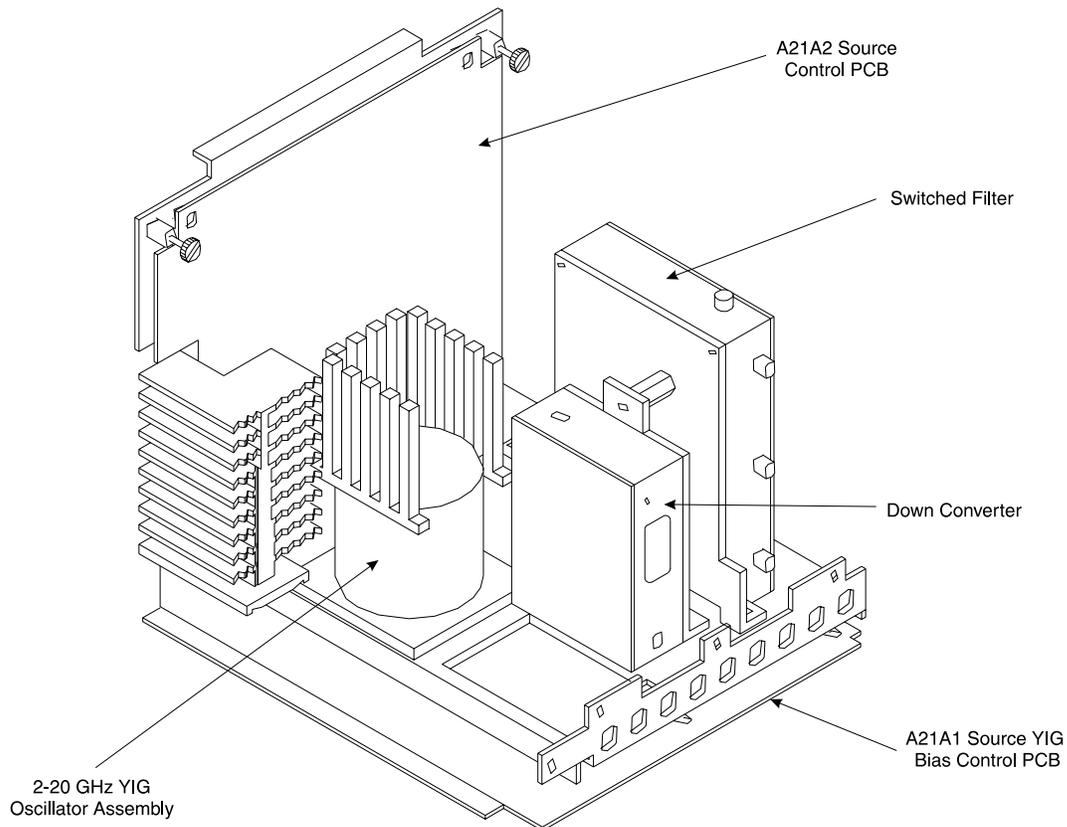

Figure 8-15. *Signal Source Module Assemblies Removal Details*
Step 1. Unfasten the two PCB retainers at the top corners of the A21A2 Source Control PCB (see Figure 8-15). To unfasten, turn screwdriver slot $\frac{1}{4}$ turn *counter-clockwise*.
- Step 4.** Remove the screw that fastens the front apron of the source module chassis to the heatsink of the A21A1 PCB. See Figure 8-15.